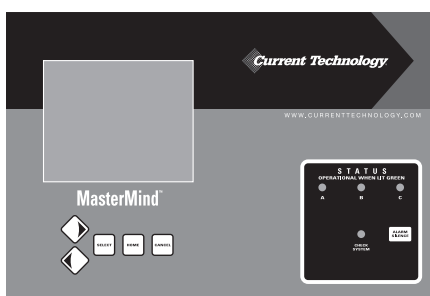

Figure 14
► If your TG3 is equipped with the Mastermind® Advanced Monitoring Option (see Figure 14)